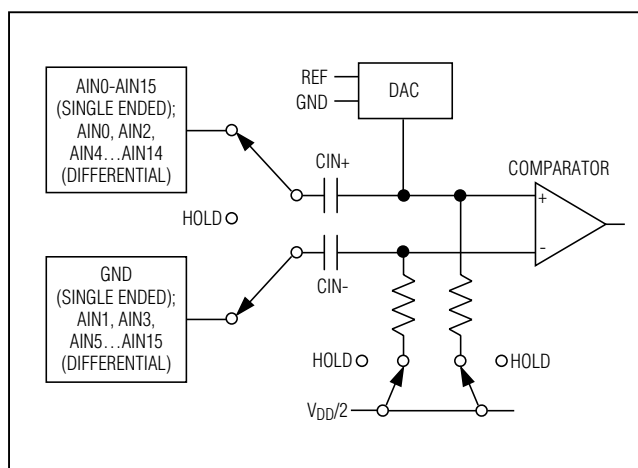

Figure 3. Equivalent Input Circuit
**Note 6:** See Figure 3 (Input Equivalent Circuit) and the Typical Operating Curve in the *Sampling Error vs. Source Impedance* section.
The MAX1027/MAX1029/MAX1031 use a fully differential ADC for all conversions. The analog inputs can be configured for either differential or single-ended conversions by writing to the setup register (see Table 3). Single-ended conversions are internally referenced to GND (Figure 3).
The equivalent circuit of Figure 3 shows the MAX1027/MAX1029/MAX1031's input architecture. In track mode, a positive input capacitor is connected to AIN0–AIN15 in single-ended mode (and AIN0, AIN2, AIN4...AIN14 in differential mode). A negative input capacitor is connected to GND in single-ended mode (or AIN1, AIN3, AIN5...AIN15 in differential mode). For external track-and-hold timing, use clock mode 01. After the T/H enters hold mode, the difference between the sampled positive and negative input voltages is converted. The time required for the T/H to acquire an input signal is determined by how quickly its input capacitance is charged. If the input signal's source impedance is high, the required acquisition time lengthens. The acquisition time,  $t_{ACQ}$ , is the maximum time needed for a signal to be acquired, plus the power-up time. It is calculated by the following equation: